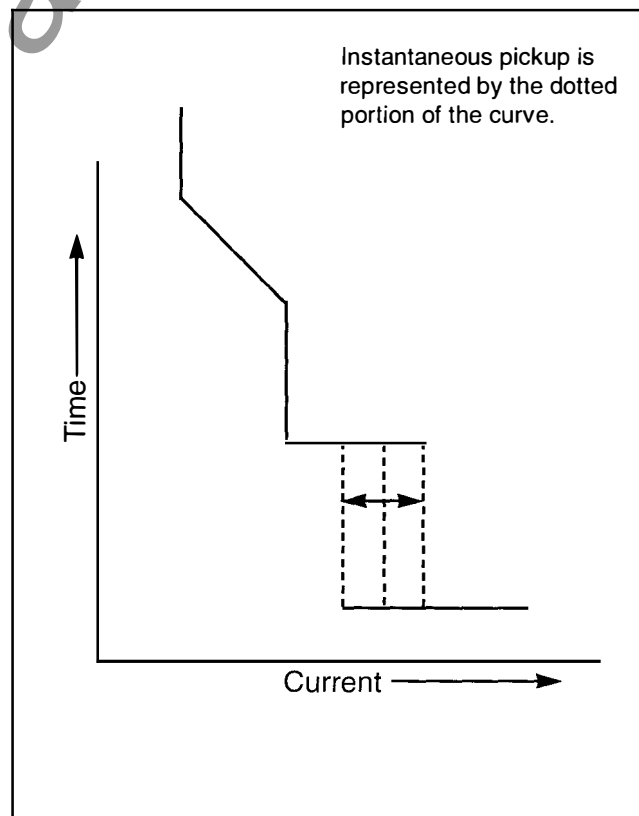

Figure 3-12 Phase Instantaneous Setting Adjustment.
*Figure 3-12* graphically illustrates this horizontal movement.